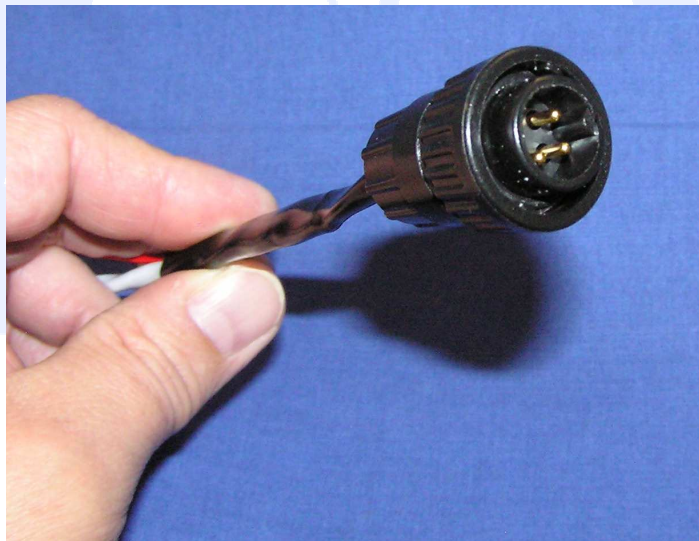

Figure 7.2: Coil Pack Harness Plug
- 1) Bundle #3 is terminated with a cannon plug type connector. See Figure 7.2 below for how the harness should look.